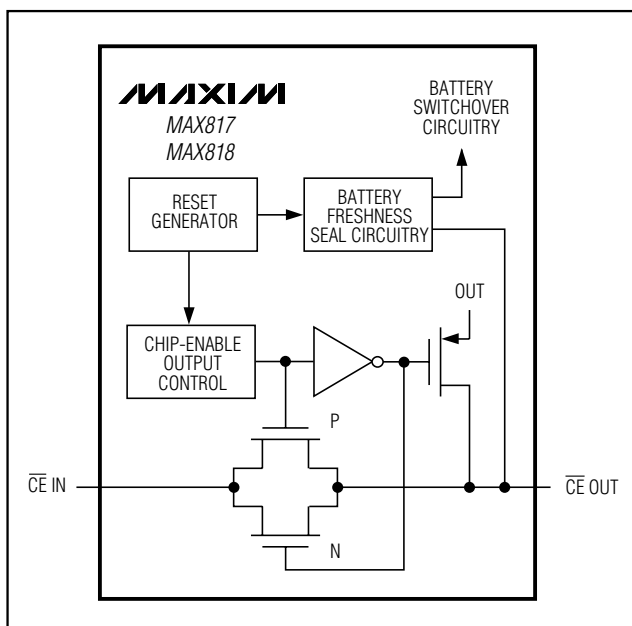

Figure 5. Chip-Enable Transmission Gate
Internal gating of the chip-enable (CE) signal prevents erroneous data from corrupting CMOS RAM in the event of an undervoltage condition. The MAX818 uses a series transmission gate from $\overline{CE}$ IN to $\overline{CE}$ OUT (Figure 5). During normal operation (reset not asserted), the CE transmission gate is enabled and passes all CE transitions. When reset is asserted, this path becomes disabled, preventing erroneous data from corrupting the CMOS RAM. The short CE propagation delay from $\overline{CE}$ IN to $\overline{CE}$ OUT enables the MAX818 to be used with most μP s. If $\overline{CE}$ IN is low when reset asserts, $\overline{CE}$ OUT remains low for typically 15 μs to permit the current write cycle to complete.
When the CE transmission gate is enabled, the impedance of $\overline{\text{CE}}$ OUT is equivalent to a 40Ω resistor in series with the source driving $\overline{\text{CE}}$ IN. In the disabled mode, the transmission gate is off and an active pull-up connects $\overline{\text{CE}}$ OUT to OUT (Figure 5). This pull-up turns off when the transmission gate is enabled.